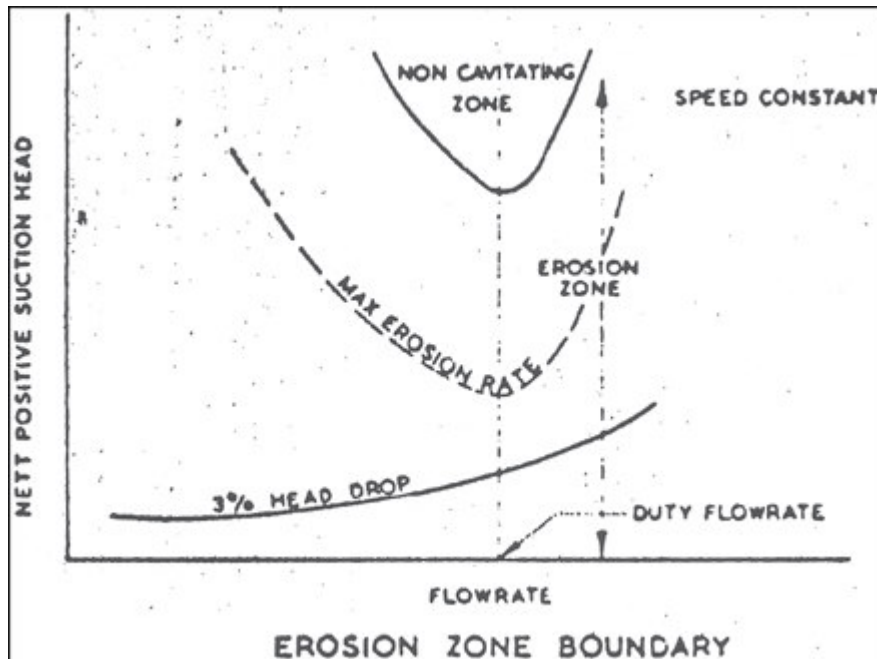

Figure 2. From Grist's "Nett Positive Suction Head Requirements for Avoidance of Unacceptable Cavitation Erosion in Centrifugal Pumps" (3)
Grist (3) reported that maximum cavitation-erosion rate corresponded with maximum cavitation noise. Based on the information available, he postulated that this occurs when the NPSHA is about two times the "3 percent" NPSHA. Figure 2 is a reproduction of Figure 2 from Grist's paper (3). Note that this ratio of "two" occurs only at (or near) the BEP. At both lower and higher capacities, the ratio increases. The ratio of two should be taken as typical, for the literature indicates lower ratios for pumps with low suction specific speeds and higher ratios for pumps with high suction specific speeds.
So what is a safe margin for a centrifugal pump? Figure 2 shows that the NPSHA must be pushed well above the value for maximum erosion rate, and this can be in the range of *five to ten times* the  $NPSHR_3$ , normally a value that is not obtainable. It therefore appears best to keep NPSHA near or slightly above (5 to 10 percent above)  $NPSHR_3$ .